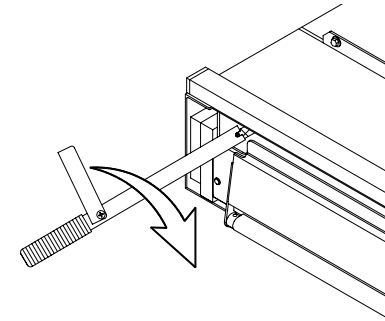

FIGURE 2-18: ROTATE PLATFORM RELEASE SHAFT
- 5) Refer to **Figure 2-18**. Obtain manual pump handle from its storage location and engage either keyed release shaft located behind the access holes in the rollstop. Rotate the shaft ¼ turn clockwise.